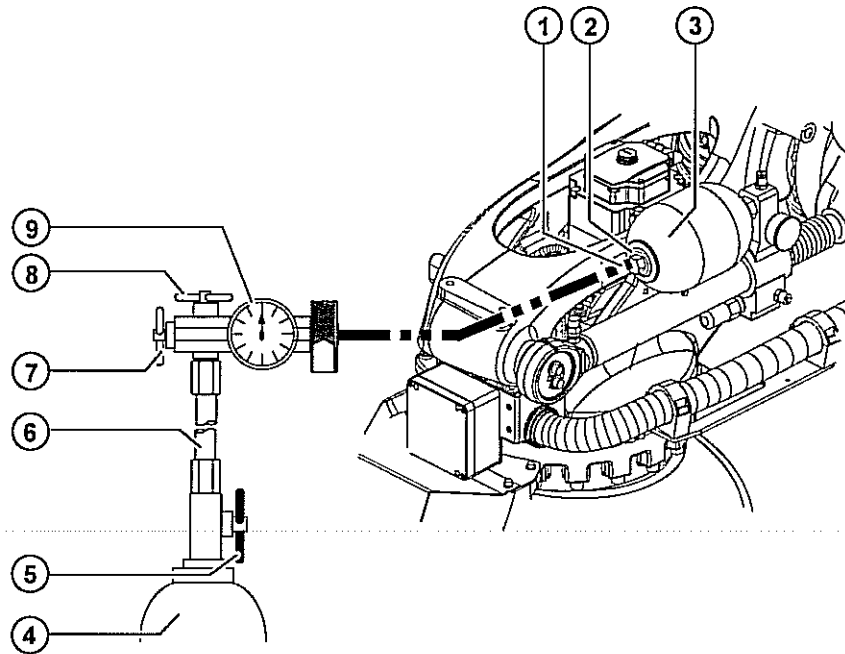

Fig. 11-5: Setting the gas pressure
2. Remove the screw cap and connect the tube to the vent valve (>>> Fig. 11-5).
7. Remove the protective caps (>>> Fig. 11-5) from the diaphragm accumulator and unscrew the Allen screw slightly (without a torque wrench, by a quarter of a turn at the most).